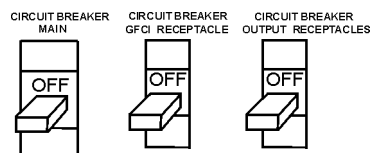

Figure 34. Main, GFCI and Load Circuit Breakers
1. Be sure to disconnect the electrical load and switch the **main**, **load** and **G.F.C.I.** circuit breakers (Figure 34) to the "OFF" position prior to starting the engine.